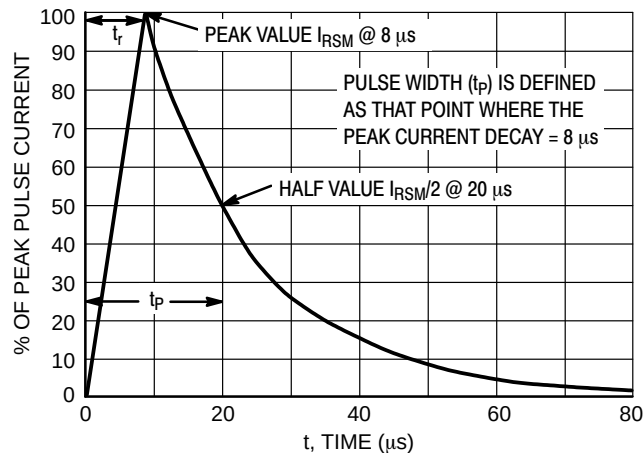

Figure 15. 8 x 20 μ s Pulse Waveform
1. Surge current waveform per Figure 15.